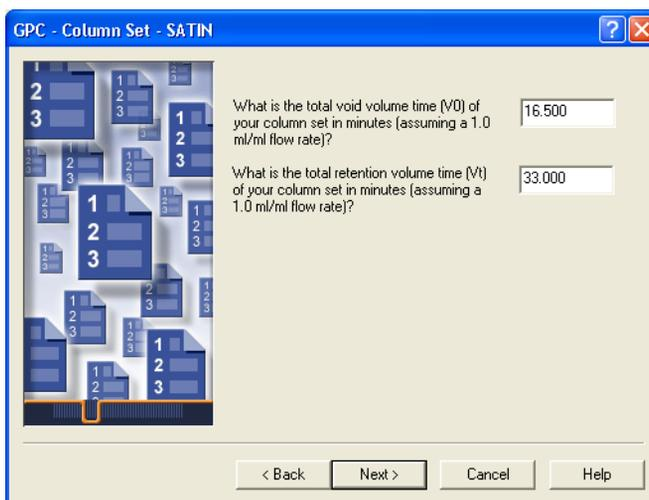

Figure 2-11 Setting V_0 and V_t Values
21. Click **Next** to go to the GPC–Column Set page (Figure 2-11). This page allows you to enter values for V_0 and V_t .